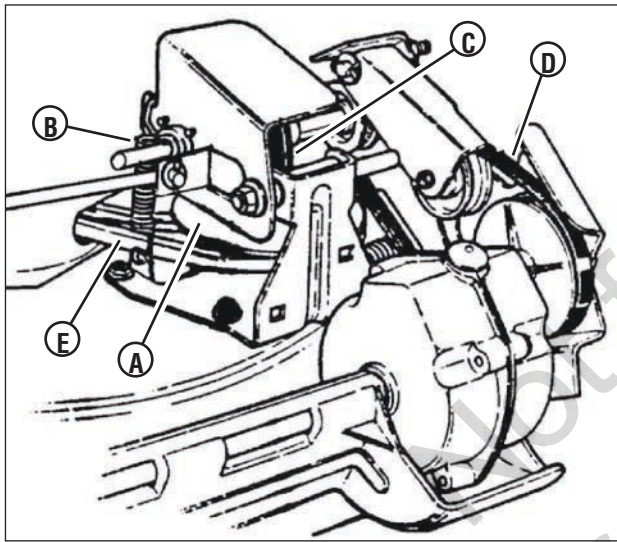

Figure 22: Wheel drive components
1. Grease on the drive disc (**A, Figure 22**) causing slippage.